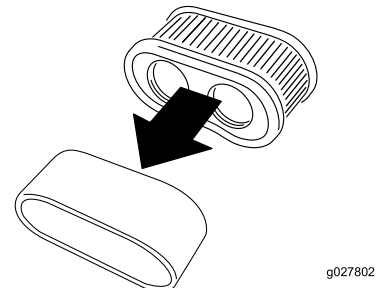

Figure 70
5. Separate the foam and paper elements (Figure 70).